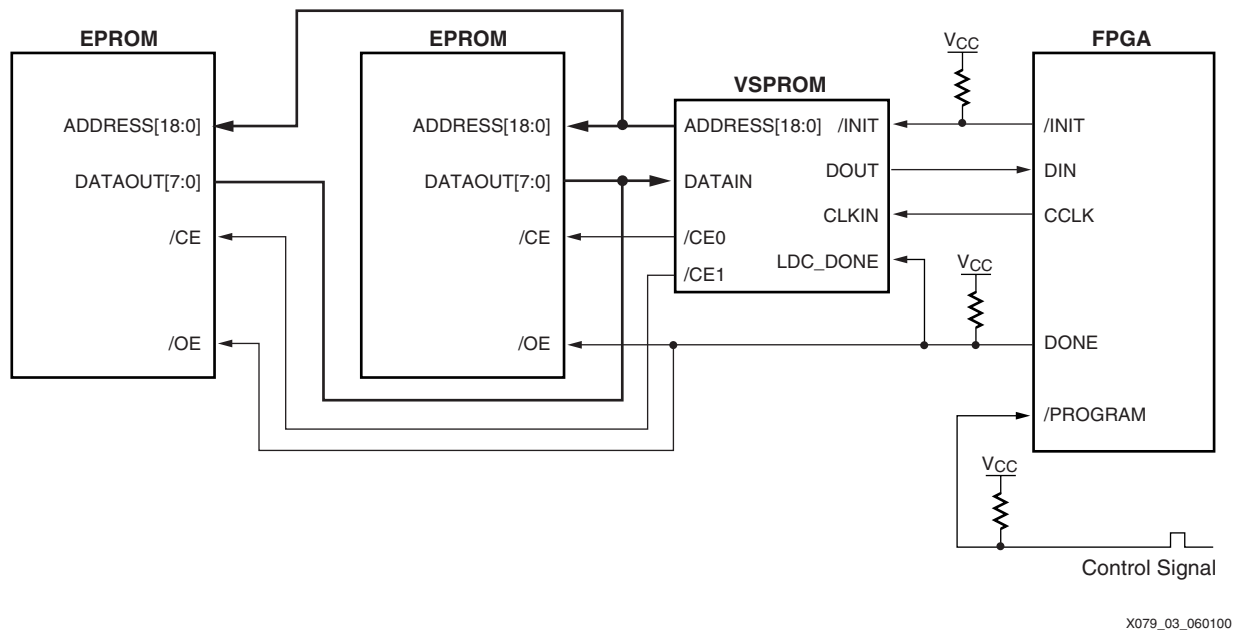

Figure 3: Connecting Multiple PROMs in a Daisy Chain
The largest FPGAs can require configuration bits not achievable by current PROMs. However, the configurable nature of the VSPROM design can easily accommodate multiple PROMs. To daisy chain PROMs, as shown in Figure 3, simply drive the chip enable (/CE) of the PROM with an address decode of the most significant bits of the address bus.
For the example shown in Figure 3, the common address bus is now 20 bits wide and the MSB ADDRESS(19) is used to select between the two PROMs, as shown in Table 2.